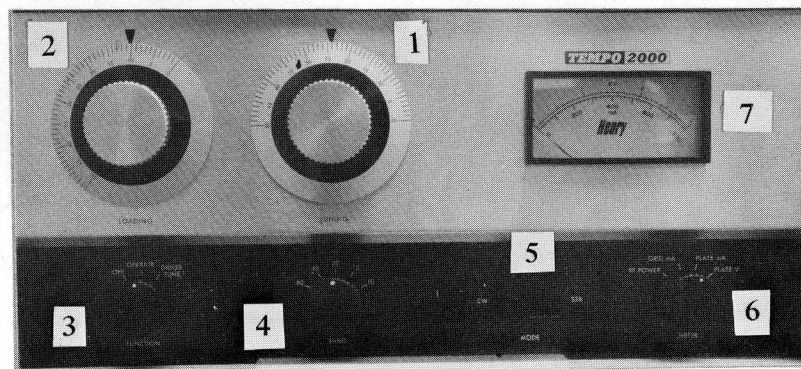
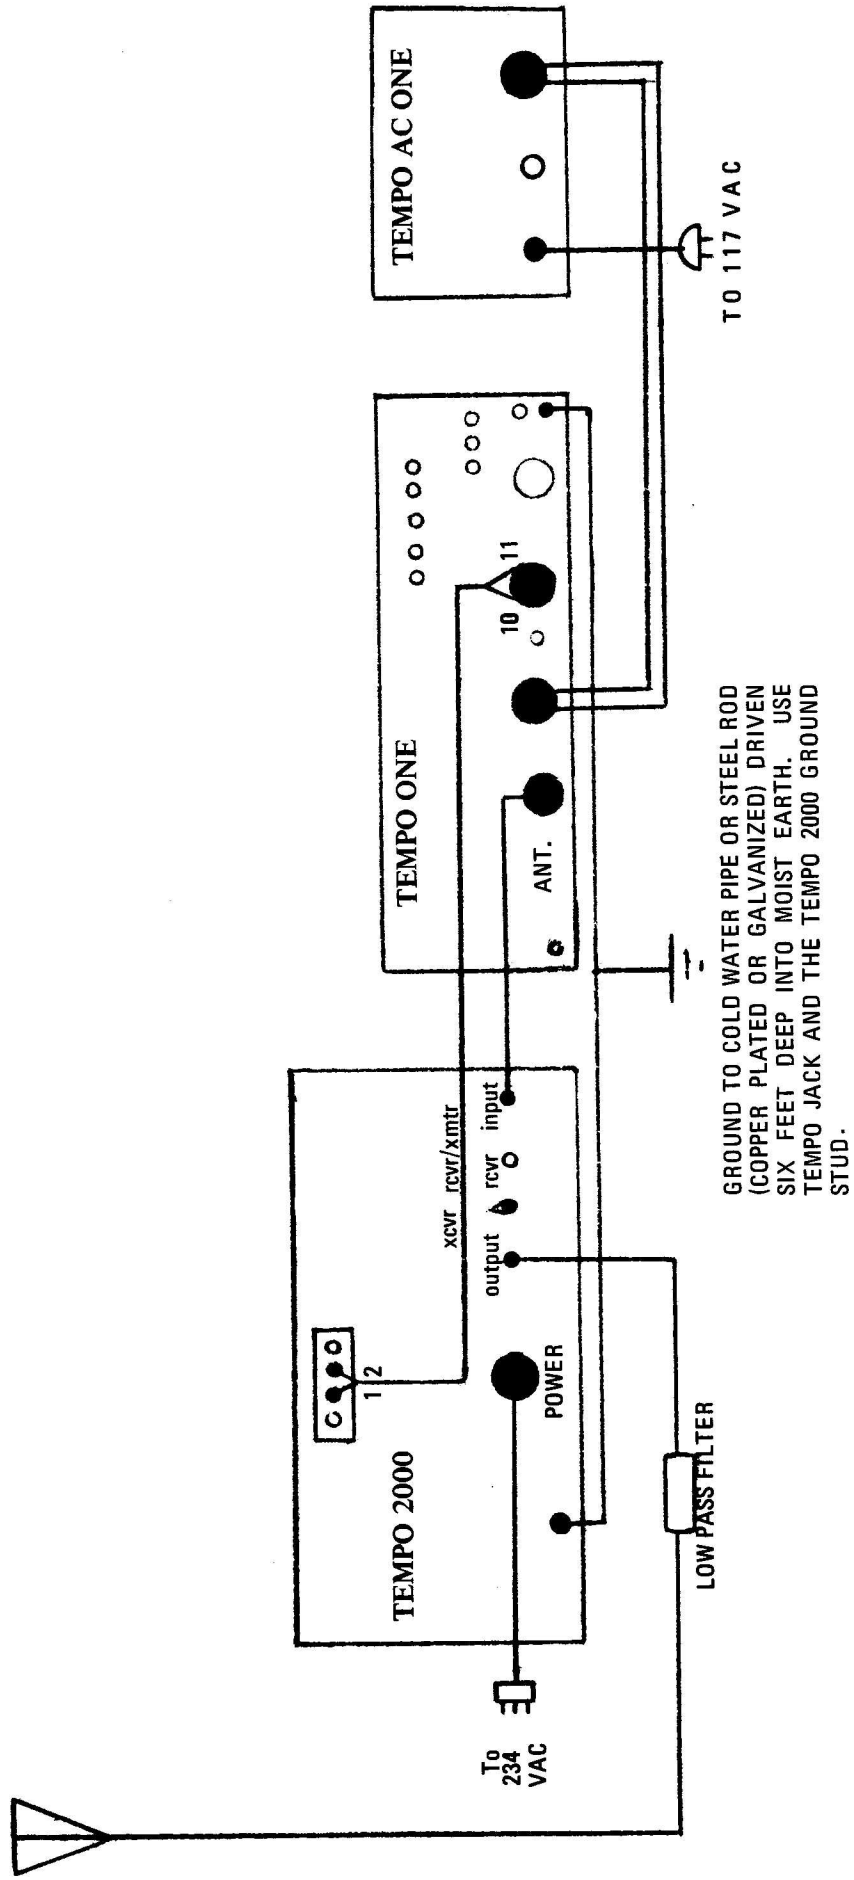

Figure 1. Front Panel View.
Figure 3. Tempo One-Tempo 2000 Interconnections.
Refer to the front and rear views, Figures 1 and 2, for the location of the controls and connections of your amplifier. Refer also to Figure 3 for Tempo 2000 station interconnections.
Numbers in () reference the photographs of the front and back panel, Figures 1 and 2.
* Rotate the FUNCTION switch (3 on Figure 3) to DRIVER TUNE.
* Rotate the BAND switch (4 on Figure 1) to the band to be used.
* Rotate the METER switch (6 on Figure 1) to RF POWER.
* Push the Tempo MODE switch (5 on Figure 1) to CW.
* Preset the Tempo 2000 LOADING (2 on Figure 1) and TUNING (1 on Figure 1) controls as follows: